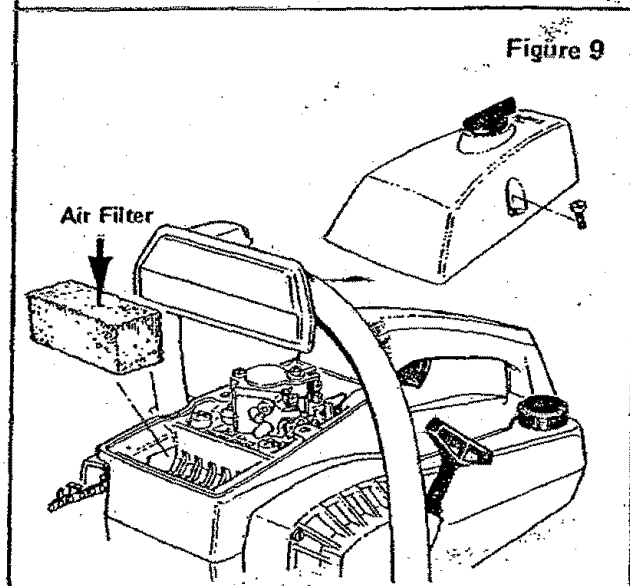

Figure 9
1. Remove the carburetor cover and pull out the filter (Figure 9).